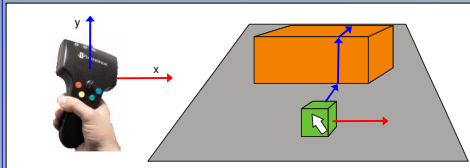

Figure 2 – WandSlide technique.
- **WandSlide:** 6DOF wand and "ray-casting" paradigm to drive SESAME algorithm, see Fig. 2.